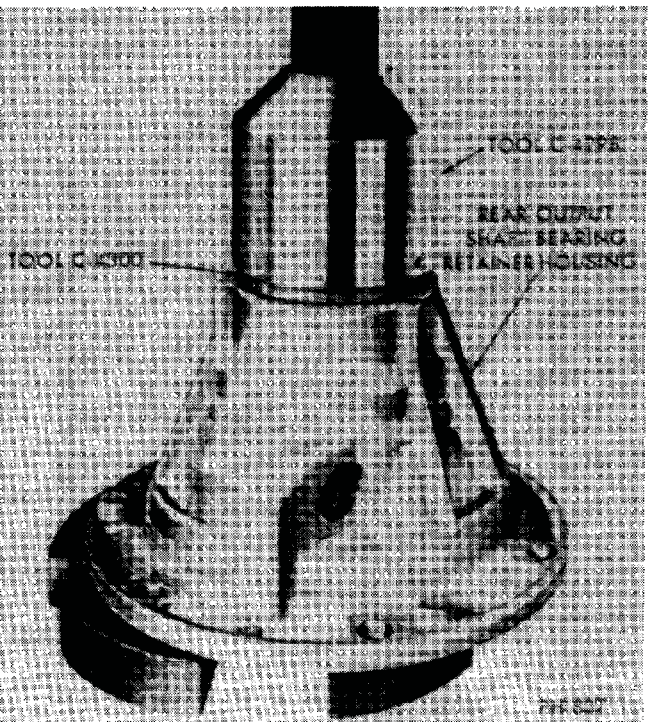

Fig. 22—Installing Rear Output Shaft Seal
(1) Position flat rubber seal ring in bearing bore. Use grease to hold in place. Position roller bearing in differential housing bore and press in until bearing bottoms in housing.
(2) Position rear bearing in output shaft housing and tap or press into place.
(3) With tools C-4298 and C-4300 install rear output shaft seal into output shaft housing (Fig. 22).